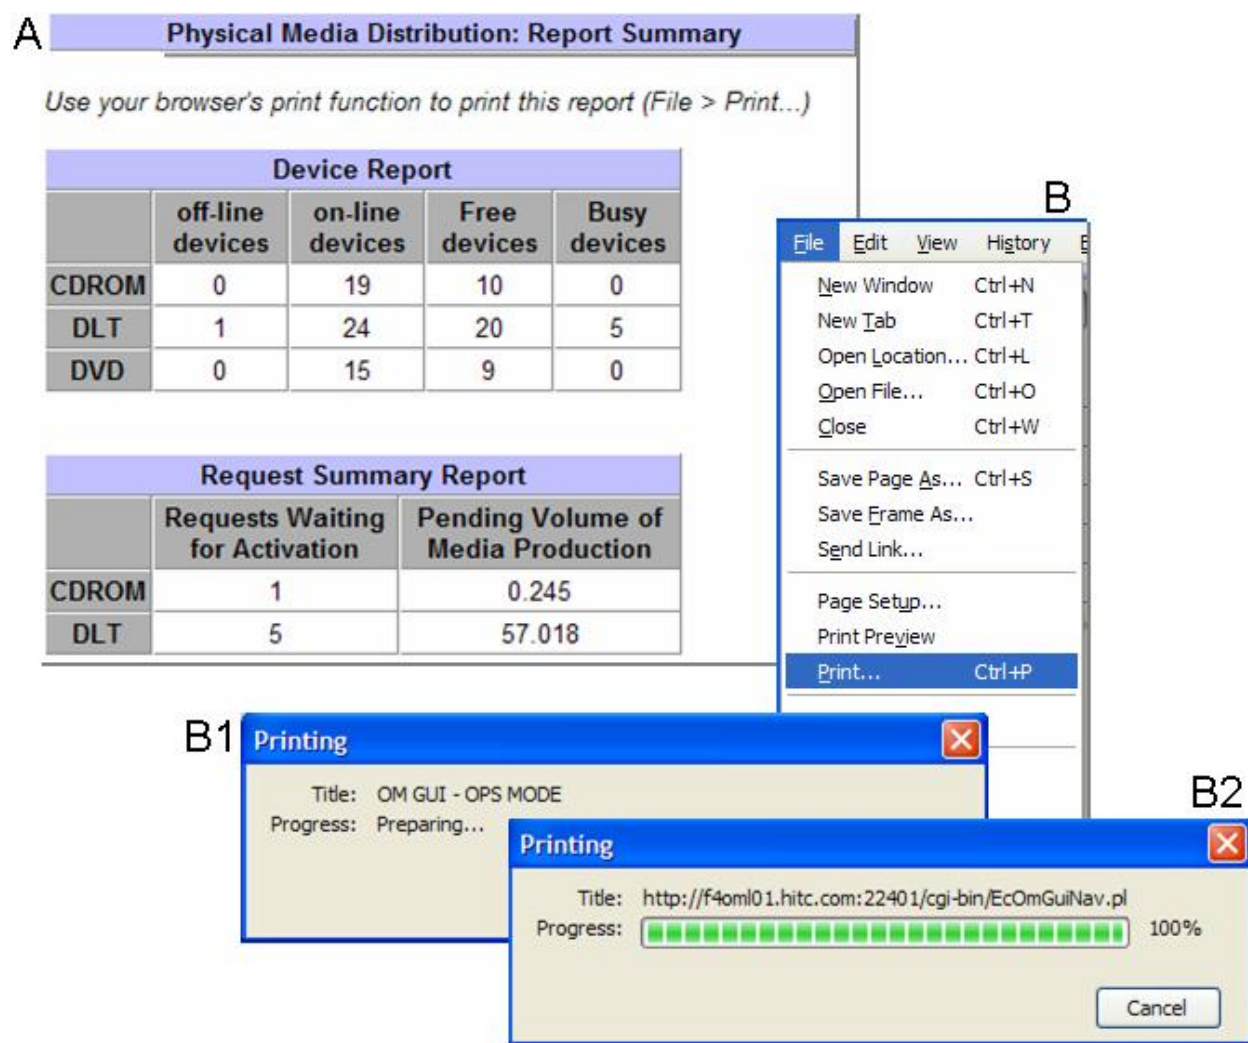

Figure 15.12-21. PMD Report Summary Page
The **PMD Report Summary** page (Figure 15.12-21) is displayed in HTML using the web browser print menu function. By using the browser's built-in and convenient print function, the reports can be printed with the formatting intact.
- 2 Click **Reports** submenu option to display the **PMD: Report Summary** page (Figure 15.12-21, Frame A).
- ▶ Select **File, Print** (or Ctrl+P) from the menu (Figure 15.12-21, Frame B).
- Prompt indicating printing in queuing to print displays (Figure 15.12-21, Frames B1, B2)